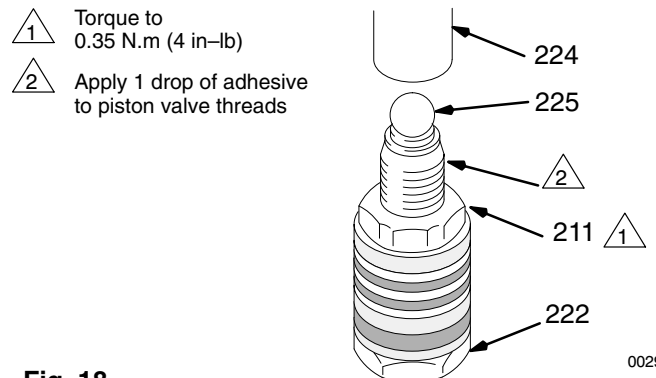
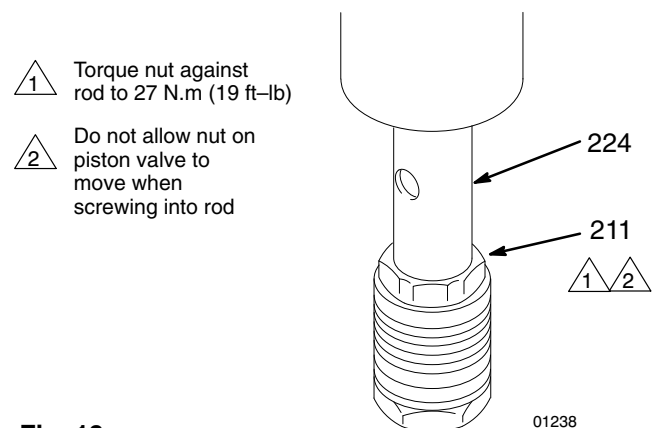

Fig. 18
Fig. 19
3. Tighten the packing retaining nut (211) onto the piston valve (222) to 0.35 N.m (4 in-lb). See Fig. 18.
4. Place the ball (225) on the piston valve (222).
5. Apply one drop of adhesive, supplied, to the piston valve threads. Hand tighten the valve assembly into the piston rod (224) just until the nut (211) contacts the rod.
**NOTE:** Note the alignment of the piston (222) to the nut (211), and maintain it through Steps 6 and 7. Use two wrenches to maintain the alignment.
7. Using two wrenches, **CAREFULLY** tighten the jam nut (211) against the piston rod (224) to 26 N.m (19 ft-lb). See Fig. 19.